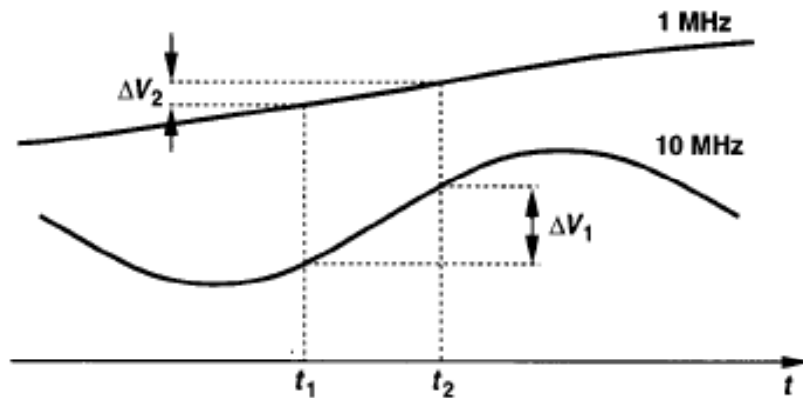

Figure 13.36 Variation of 1-MHz and 10-MHz noise components in a time interval of 10 ns.
- From  $t_1$  to  $t_2$  (Fig. 13.36), only high frequency components of  $A_1$ , in the order of  $1/(t_2-t_1)$ , change  $V_{XY}$  significantly. In other words the **offset cancellation suppresses noise frequencies below roughly  $1/(t_2-t_1)$** .